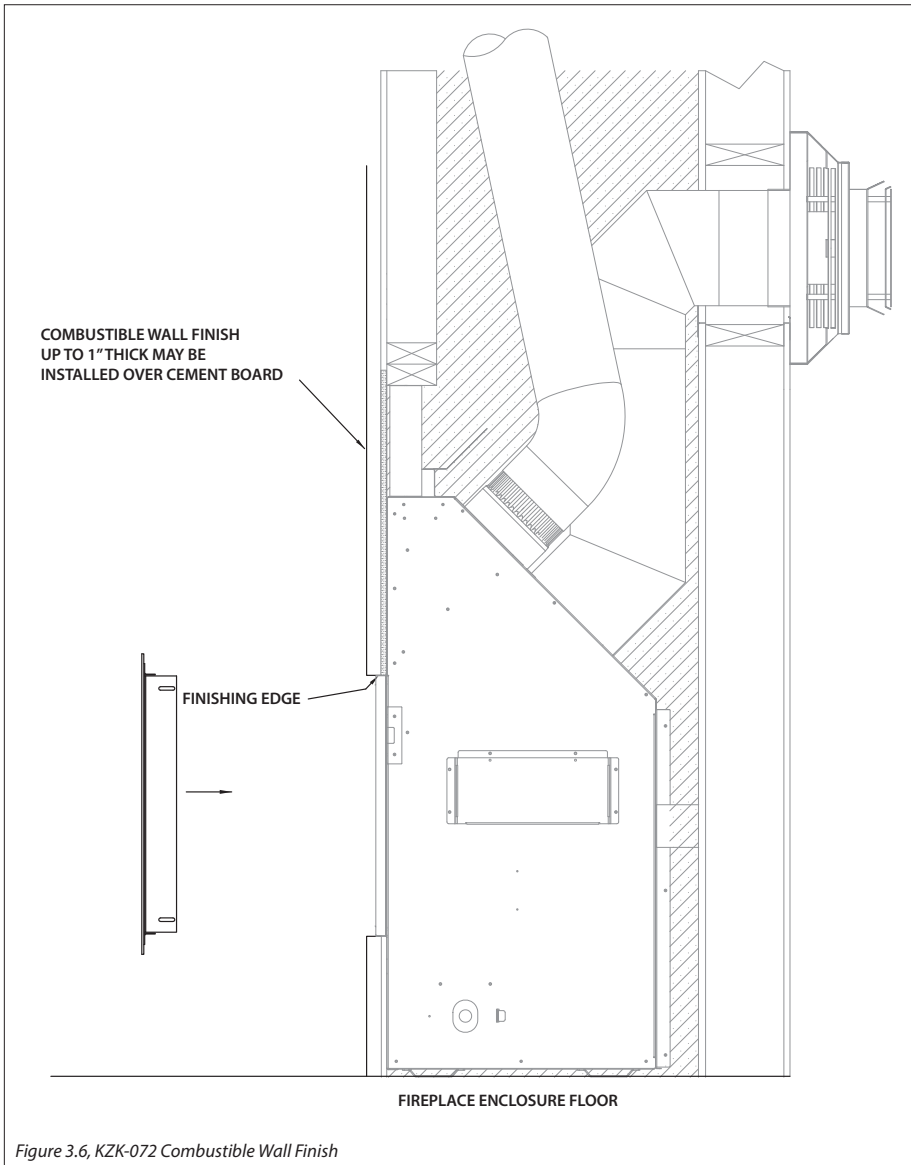

Figure 3.6, KZK-072 Combustible Wall Finish
- Figure 3.6 shows installation of combustible wall finish up to 1" thick. This combustible material goes on any required non-combustible materials as shown in Figure 3.1 on page 9.